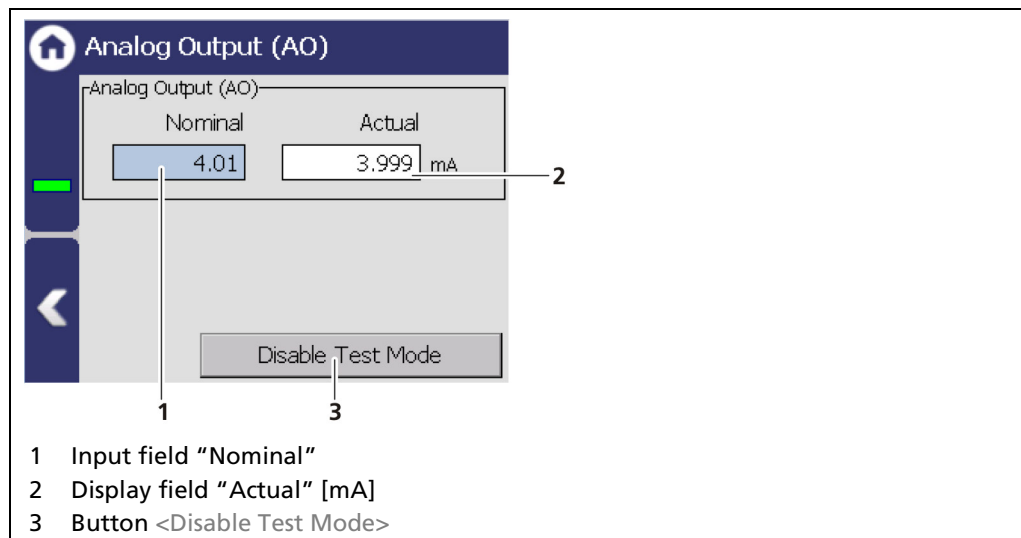

Fig. 127 Simulation Analog Output
1. Click on the input field (Fig. 127, item 1) and enter the target value for the simulation.
3. Click on the <Disable Test Mode> button (Fig. 127, item 3) to stop the simulation.